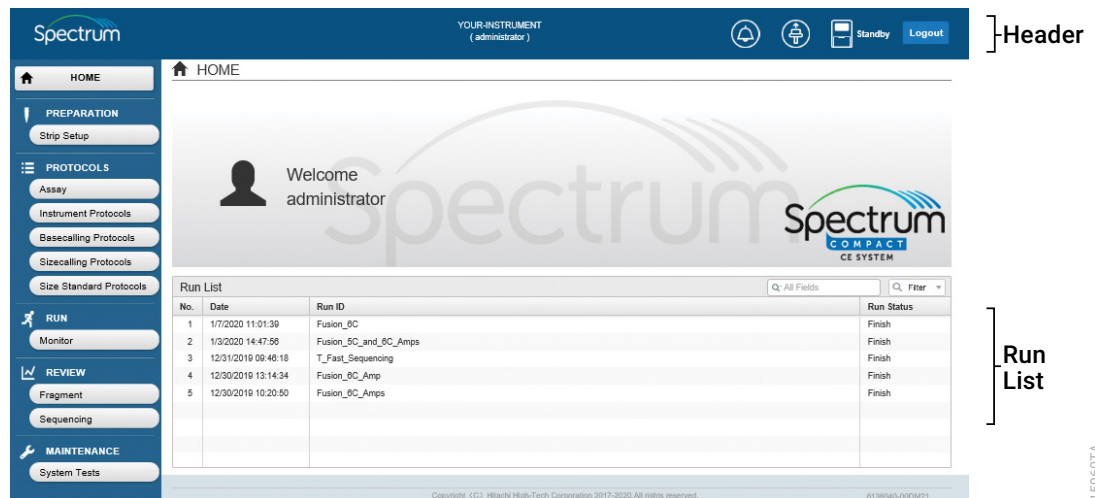

Figure 117. Spectrum Compact Remote Access Software 'Home' screen.
1. Select **Logout** in the upper right corner of the header on the 'HOME' screen (Figure 117).